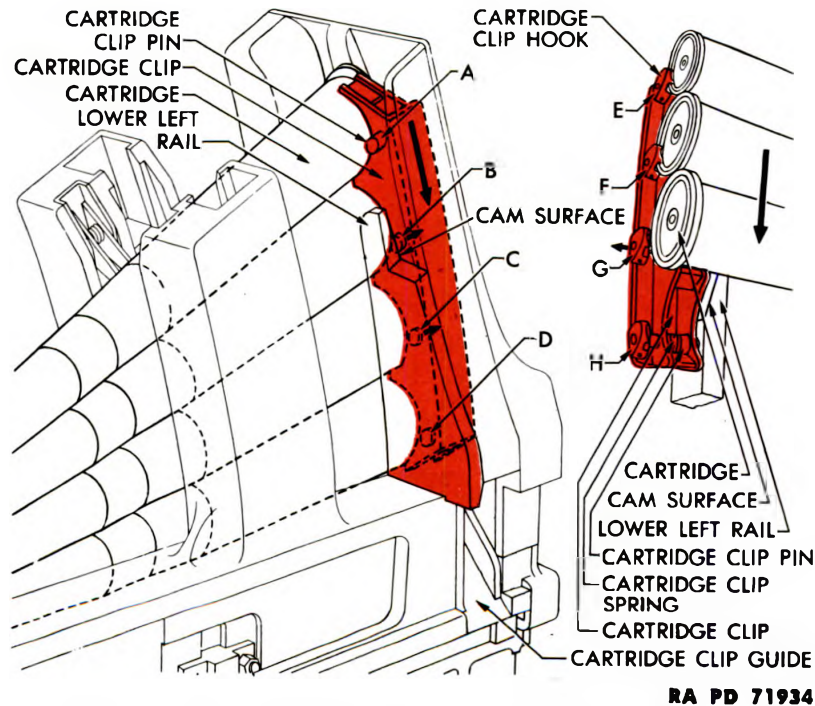

Figure 34 – Cartridge Clip – Release From Cartridges
(1) The cartridges are released from the cartridge clip (red in fig. 34) as they move downward in the automatic loader. As the cartridge and clip move downward, the cartridge clip pins are forced to the rear by the cam surface of the lower rail in the rear cartridge guide. This action releases the cartridges from their hooks and from the clip. When fully released, the clip is deflected by the rear rail and is ejected through the cartridge clip guide on the left side of the gun.
(2) The action on the cartridge clip pins is shown in figure 34. Pin A has not engaged the lower rail. Pin B has engaged the lower rail and is just being forced rearward. Pins C and D have been forced fully to the rear and have released their cartridges. The action of the hooks is shown in the insert in figure 34. Hooks E and F hold
**40-MM AUTOMATIC GUN M1 (AA) AND 40-MM ANTI-AIRCRAFT